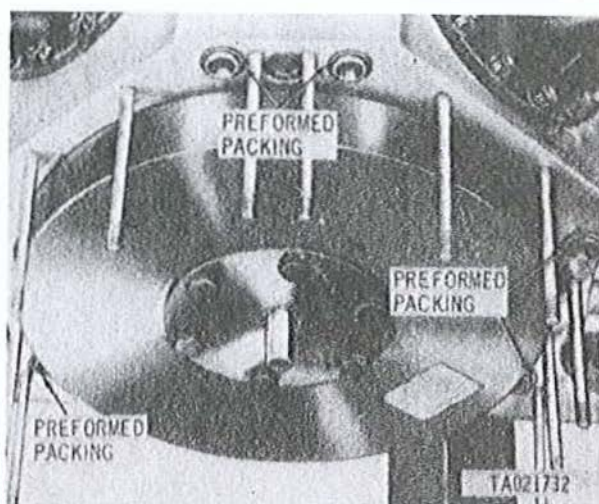

Figure 3-99. Front end of crankcase assembly showing locations of oil transfer tube preformed packings.
e. Remove damper and oil filter housing and remove and discard five crankcase to housing transfer tube, preformed packings (fig. 3-99).